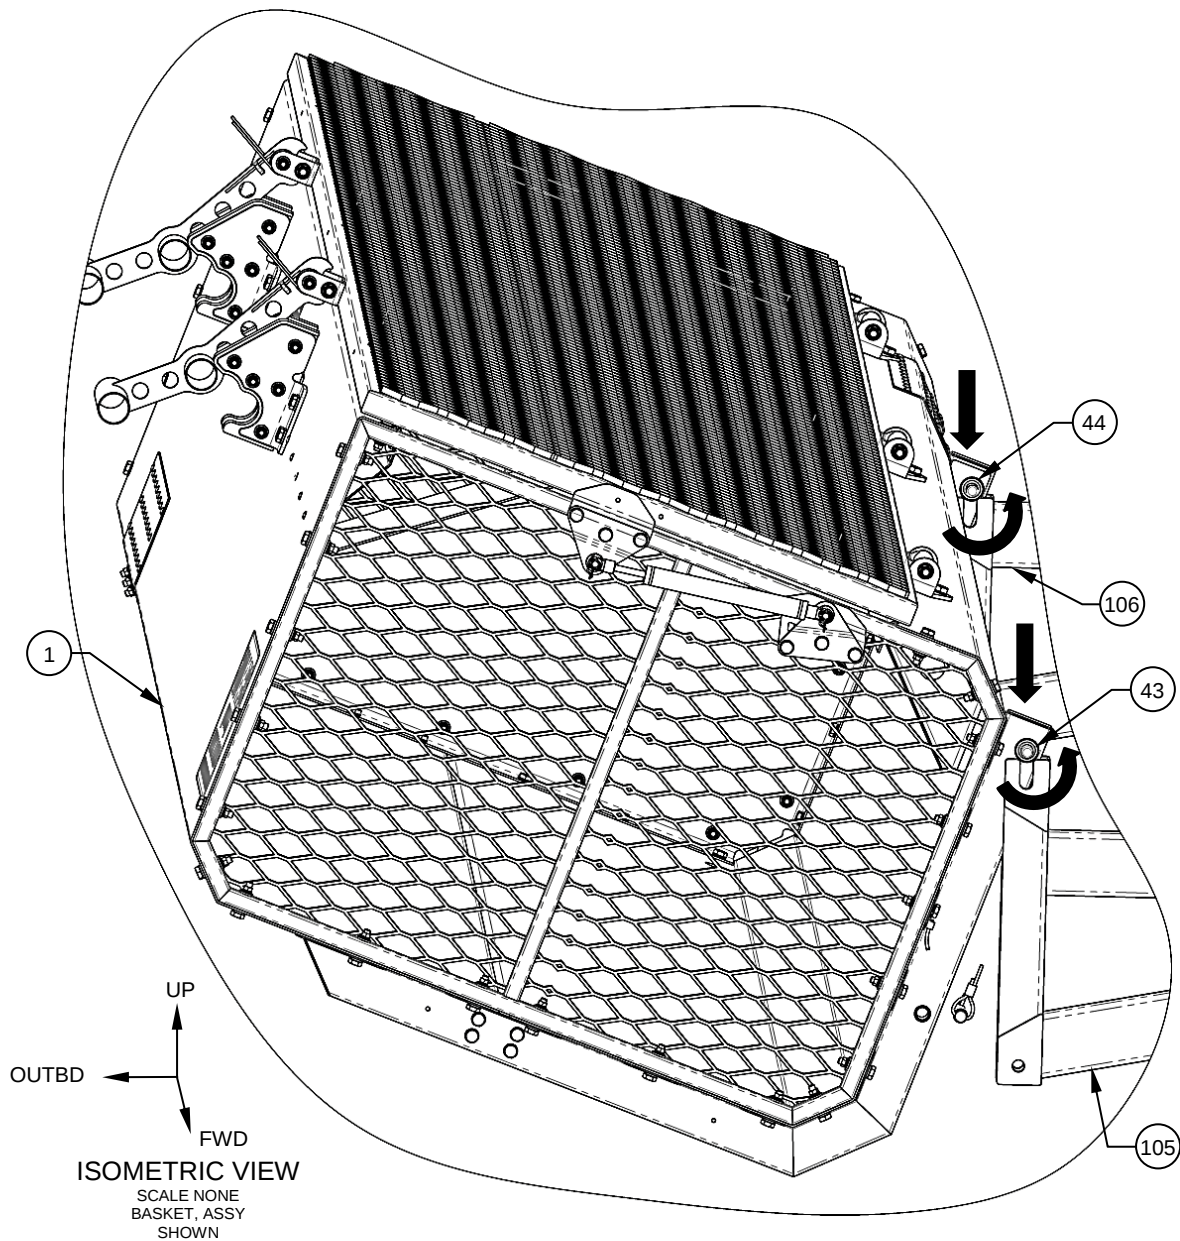

Figure 5
8. To install the Utility Basket, Assy, (Item 1) onto the FWD & AFT Attachment Arm, Assys, (Items 105 & 106), place the pins on the FWD & AFT Support, Assys, (Items 43 & 44), into the designated slots on the FWD and AFT Attachment Arms, as shown in Figure 5. The basket will rotate around the pins and settle into position.